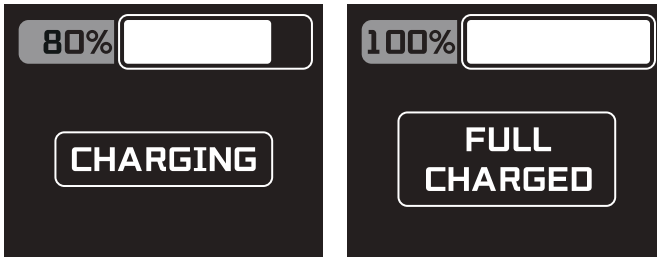

Figure 4.3.3.6
(11) Battery Charging Status Display: Refer to Figure 4.3.3.6